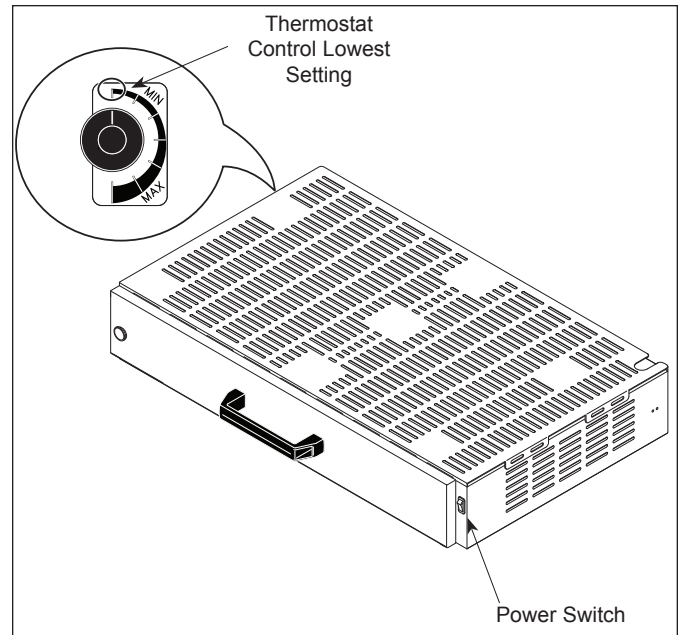

Figure 3. Controls
2. Set the Thermostat Control Knob to the minimum setting as shown in Figure 3.